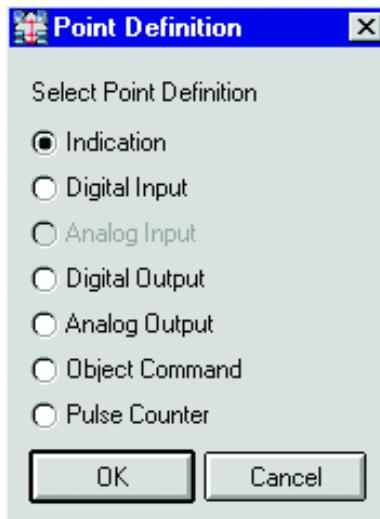

Figure 41: The SPA point types
1. In the **SPA Points** page, click the **Add** button. This opens the **SPA Point definition** dialog, which shows the list of the possible SPA point types. See Figure 41.